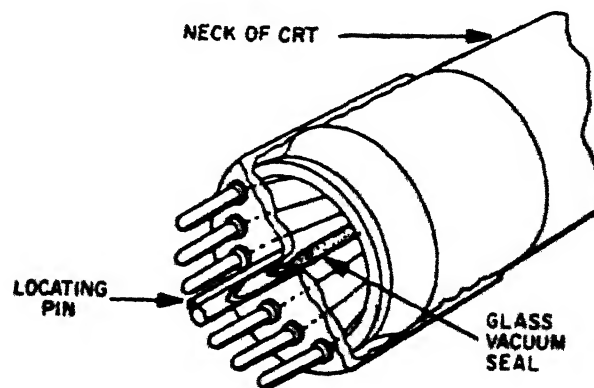

FIGURE 1
10. When a defective cathode-ray tube (CRT) has been removed from a radar indicator or television, it becomes necessary to discard it. It is not a simple matter of throwing the CRT into a trash receptacle. The danger of implosion must be removed before disposal is completed. The first step is to place the defective CRT, face down, into an empty CRT carton. Second, carefully break off the locating pin on the tube base. See figure 1. The last step is to break the vacuum seal of the CRT with a screwdriver or a pair of pliers. Once the vacuum seal has been broken, the danger of implosion is removed, but all other hazards still remain. To complete the disposal of